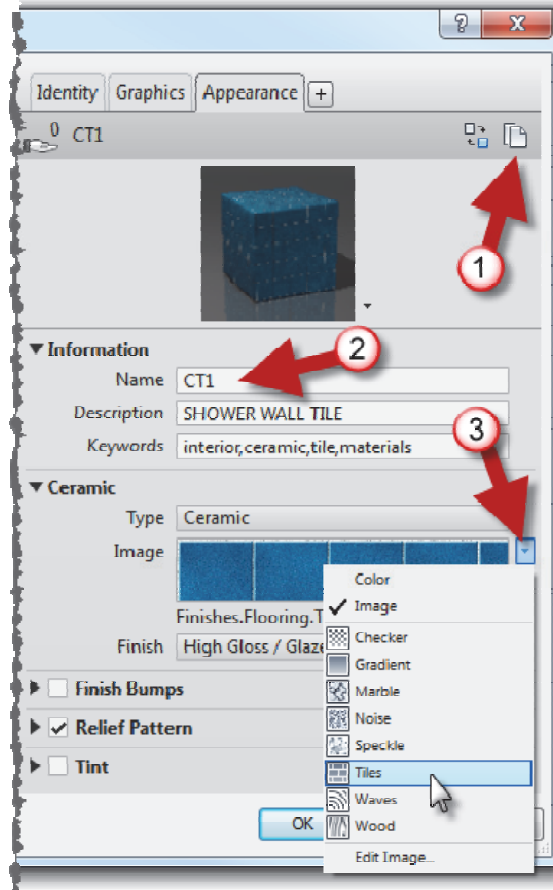
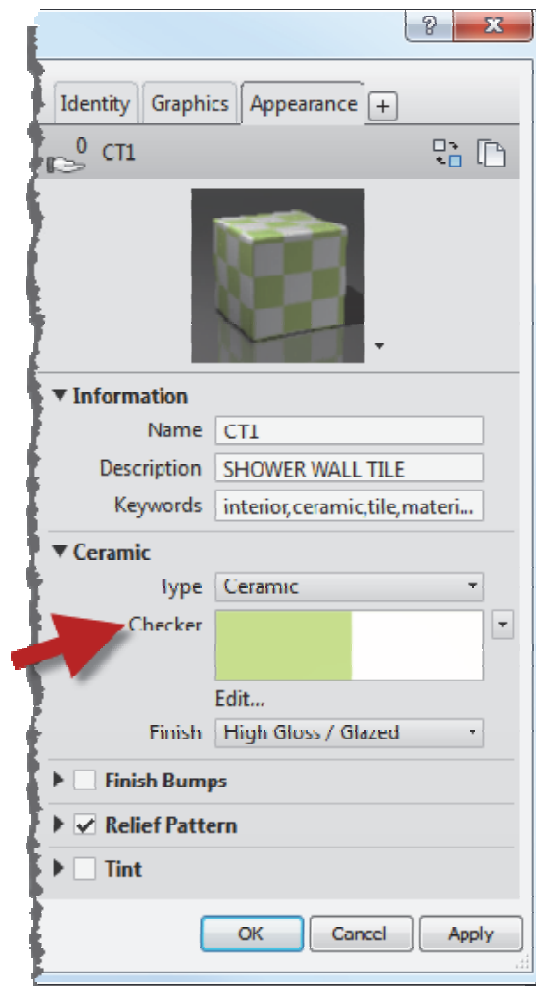

FIGURE 4-4.4 Material Browser; Appearance tab
FIGURE 4-4.6 Material Browser (alternate option)
19. Duplicate the *Appearance Asset* and rename it **CT1** (Steps 1 & 2; Figure 4-4.4).
Notice this material is currently using an image file to represent the tile (Figure 4-4.4). This would be similar to taking a photo of an installed tile and then cropping it so that it repeats nicely. In the next few steps you will take a look at another option for representing tile.
20. Click the down-arrow to the right of the image preview (Step 3; Figure 4-4.4).
The *Material Browser* dialog below shows one of the other options shown in Figure 4-4.4. This is the **Checker** option where you can select two separate colors. This can be used for an entire wall or in an accent area (Figure 4-4.6). Be sure to explore the other options, such as *Wood*, which can be used to represent wood or other things such as art glass.